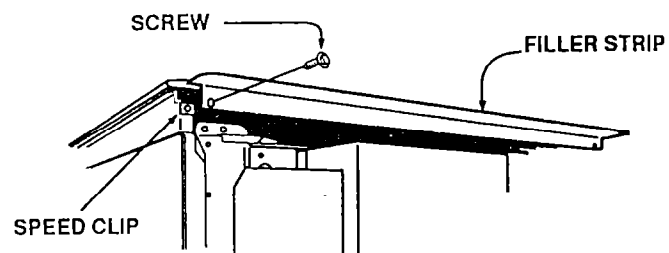

Fig. 3
This range is designed to be installed in a 30" wide opening. See Figure 3 for dimensions. The counter opening must be 25" deep when the backguard is used. See the following page.
- Use the filler supplied with range (See Fig. 3), or